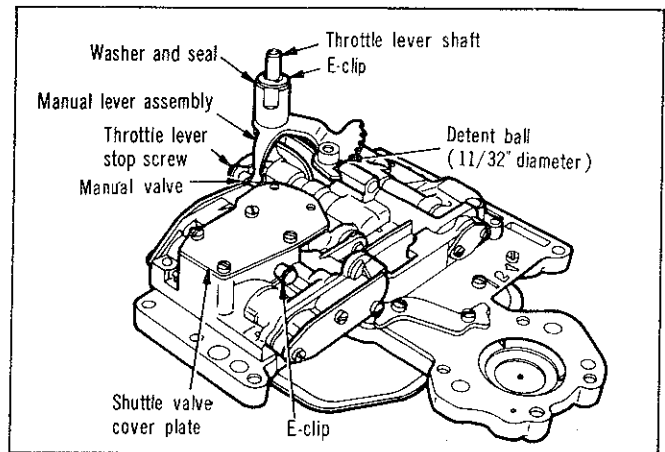

Fig. 38—Valve body controls
(1) Turn valve body over (Fig. 38) and remove shuttle valve cover plate.